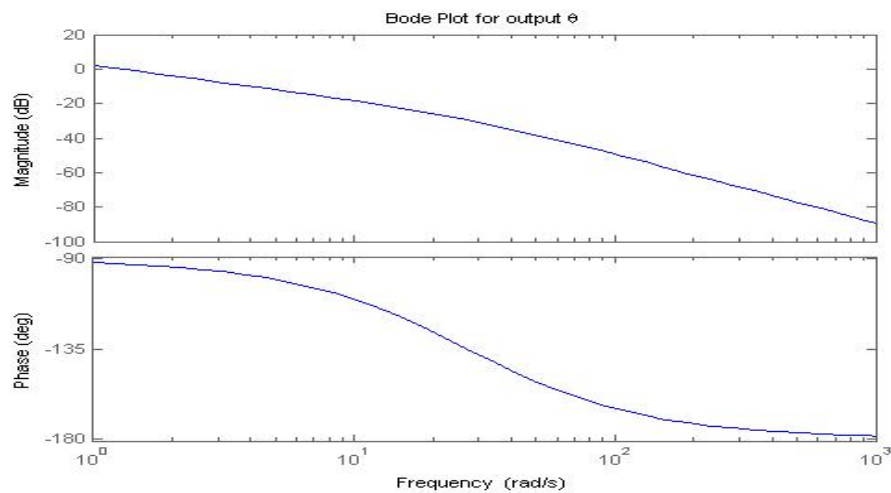

Figure 2.1: Matlab generated Bode plot for output  $\theta$
1. Figures 2.1 and 2.2 show the Matlab generated Bode plots for the systems angular position and velocity.